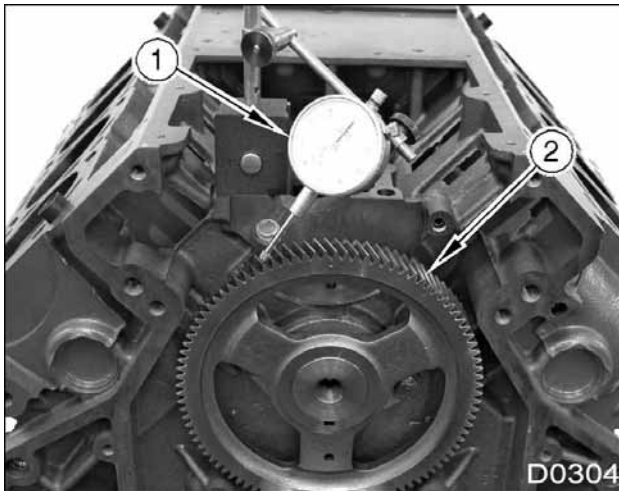

Figure 349 Gear Backlash check (camshaft gear to crankshaft gear)
1. Check and record backlash for camshaft gear-to-crankshaft gear as follows (Figure 349):